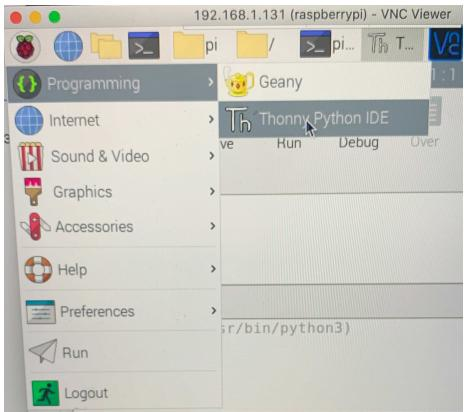

Figure 11: Click on the Raspberry at the top of the screen and then Programs to find Thonny
2. Boot up your Raspberry Pi and open the IDE Thonny (Figure 11).